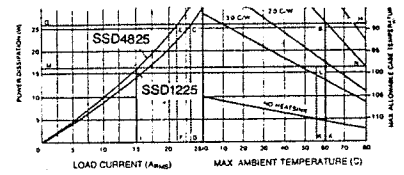

Figure 1. Use of Thermal Derating Curves
**Example 1:** If a SSD1225 is mounted on a heatsink with a thermal resistance of 1°C/W (including Recs) and must operate in an ambient of 60°C, the allowable current of 23A may be determined by following the route, A, B, C, D (Figure 1). For a SSD4825, following the route, A, B, E, F will yield a current of 21A. Additional information of power dissipation and maximum allowable case temperature can be found by extending line E, C, B to points G and H where the values of 26W and 89°C are read.
**Example 2:** If a current of 15A is required for a SSD4825 in an ambient of 55°C, the necessary heatsink, plus interface, thermal resistance of 2.7° C/W may be determined by following the route I, J, K, L (Figure 1). Additional information of power dissipation and case temperature can be found by extending line J, L to points M and N where the values of 16W and 99° are read.
Alternatively, heatsink (b) at 16 watts is 1.9°C/W. Adding 0.1°C/W for Recs and returning to figure 1, it would allow operation at a maximum ambient of 65°C instead of 55°C.